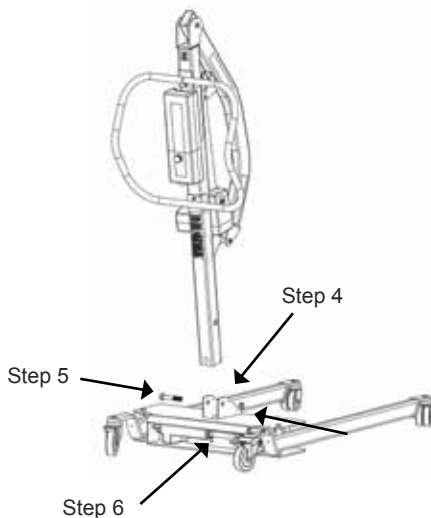

Figure 3
3. Lift the mast assembly from the base. The assembly needs to be rotated and positioned close to vertical so the handle is to the rear of the lift (Figure 3).
4. Position the mast assembly into the base socket. Full engagement of the mast is indicated by alignment of the 5/8" bolt hole between the mast and the base (Figure 3).